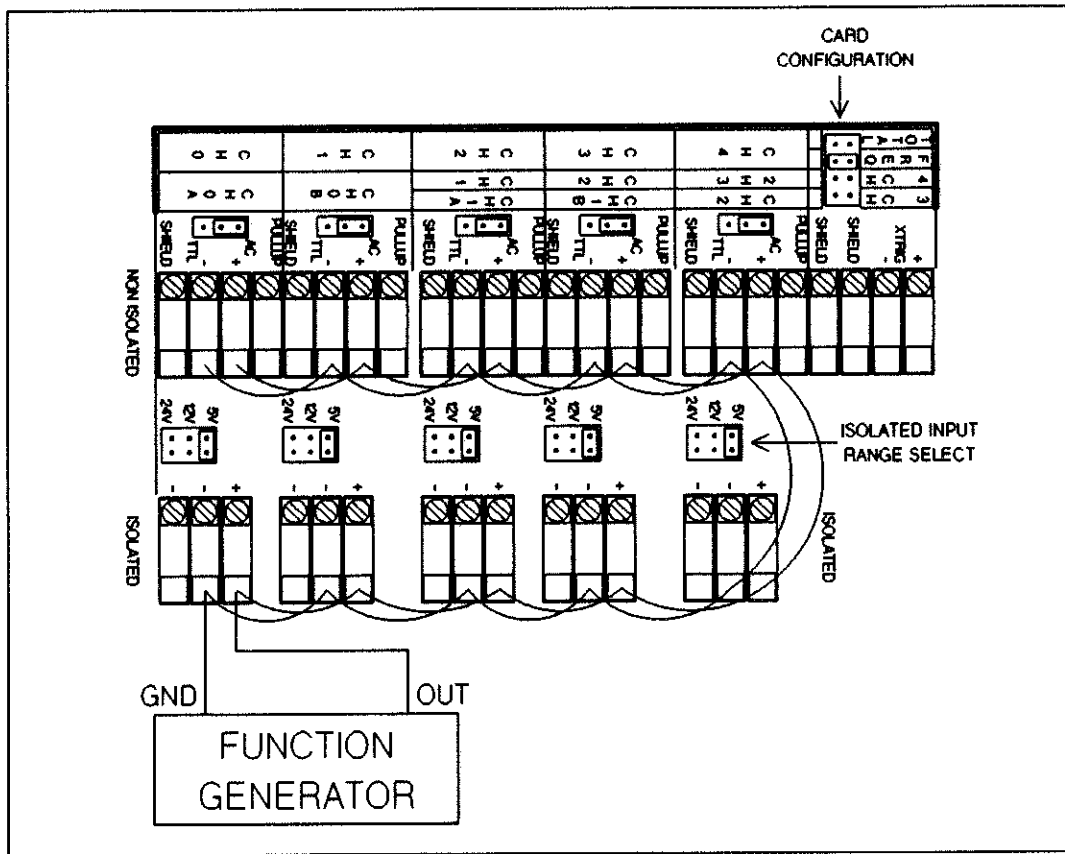

Figure 11-8 Frequency Test
3. Connect the function generator to the shorted "+" and "-" inputs of the Isolated and Non-Isolated channels. The connections are shown in Figure 11-8.
4. Refer to Figure 11-8. Set the Non-Isolated Input jumpers to AC and set the Card Configuration jumper to **FREQ**.